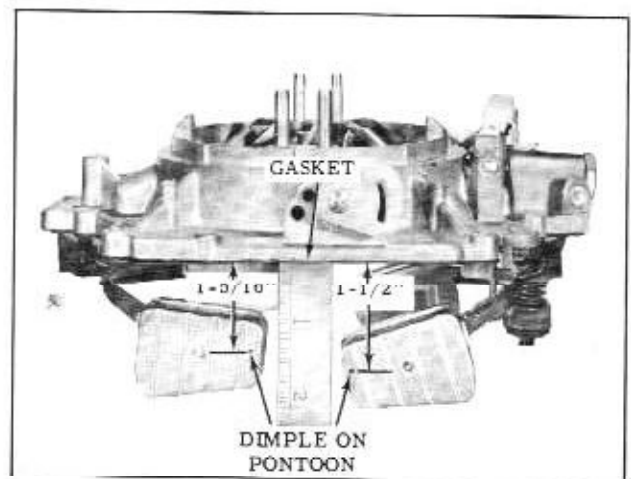

Fig. 8-111 Checking Primary and Secondary Float Drop
1. Position the air horn as shown in Fig. 8-111. Do not hold the power piston for this adjustment.